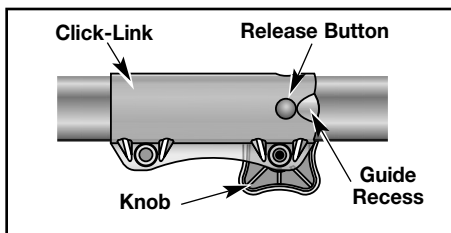

Fig. 8
1. Loosen the knob **counterclockwise** (Fig. 8).
2. Press and hold the release button in (Fig. 8).